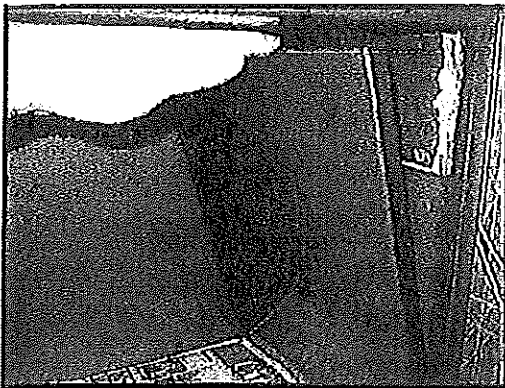

Figure 70: Removing the side panel.
3. Pull the top of the right panel toward the center of the unit using caution not to scratch the back panel (Figure 70).